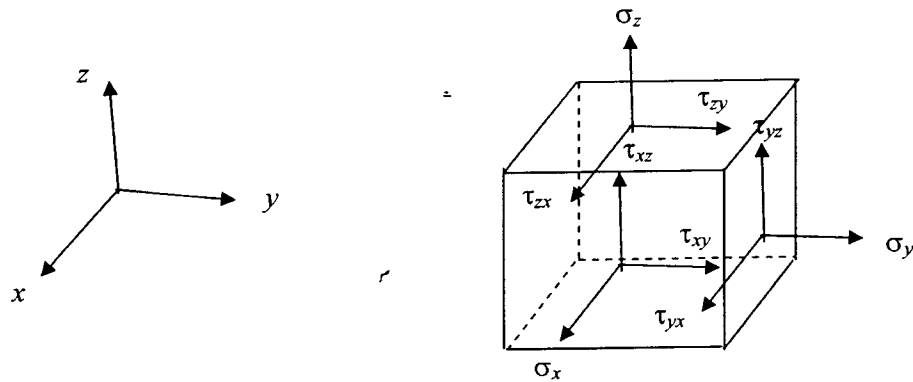

Figure 1
1. (a) Figure 1 shows an infinitesimal volume in a three dimensional body under stressed condition. Derive the constitutive equation $\varepsilon = D\sigma$ for the case of a homogeneous isotropic body with modulus of elasticity E and Poisson's ratio ν where :
- (b) The set of equilibrium equations and strain-displacement equations for an infinitesimal volume in a three dimensional body as shown in Figure 1 are given as follows :